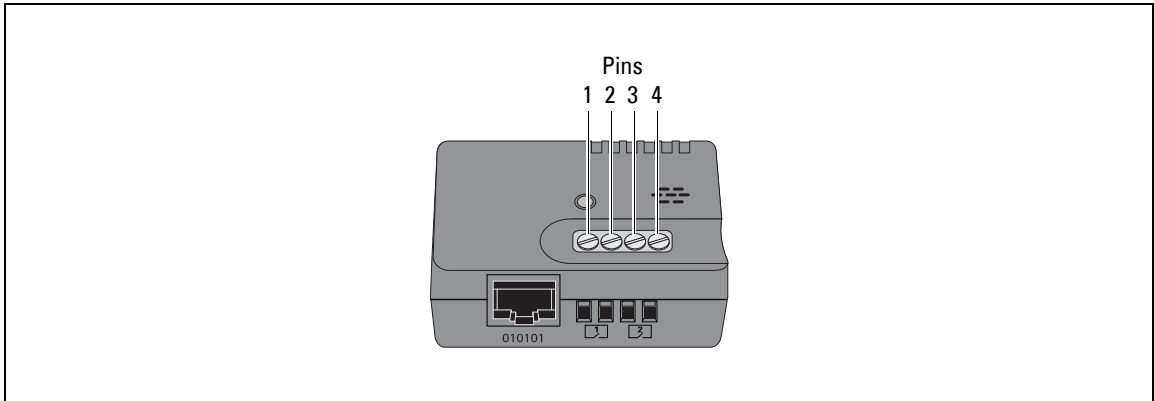

Figure 3. Connecting External Contact Devices
- 1 If you plan to monitor one or two external contact devices, connect external contact closure inputs to the screw terminals on the EMP (see Figure 3 and Table 1).